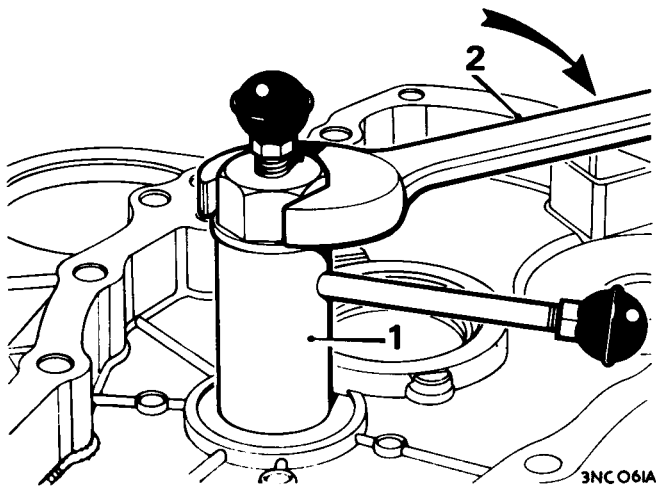

Fig. F.22
43. Remove the other idler gear bearing from the flywheel housing, using tool 18G 581, Fig. F.22.